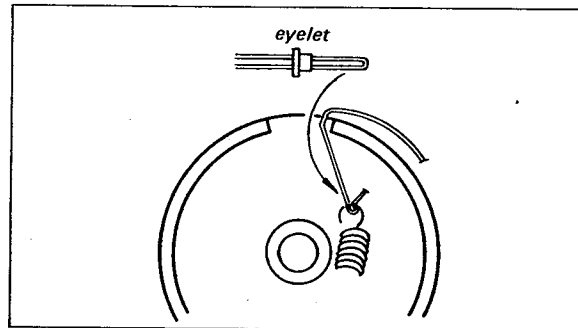

Fig. 2-9. Finishing dial cord stringing
5. Pass the doubled end of the cord through the eyelet, then hook it to the spring as shown in Fig. 2-9.